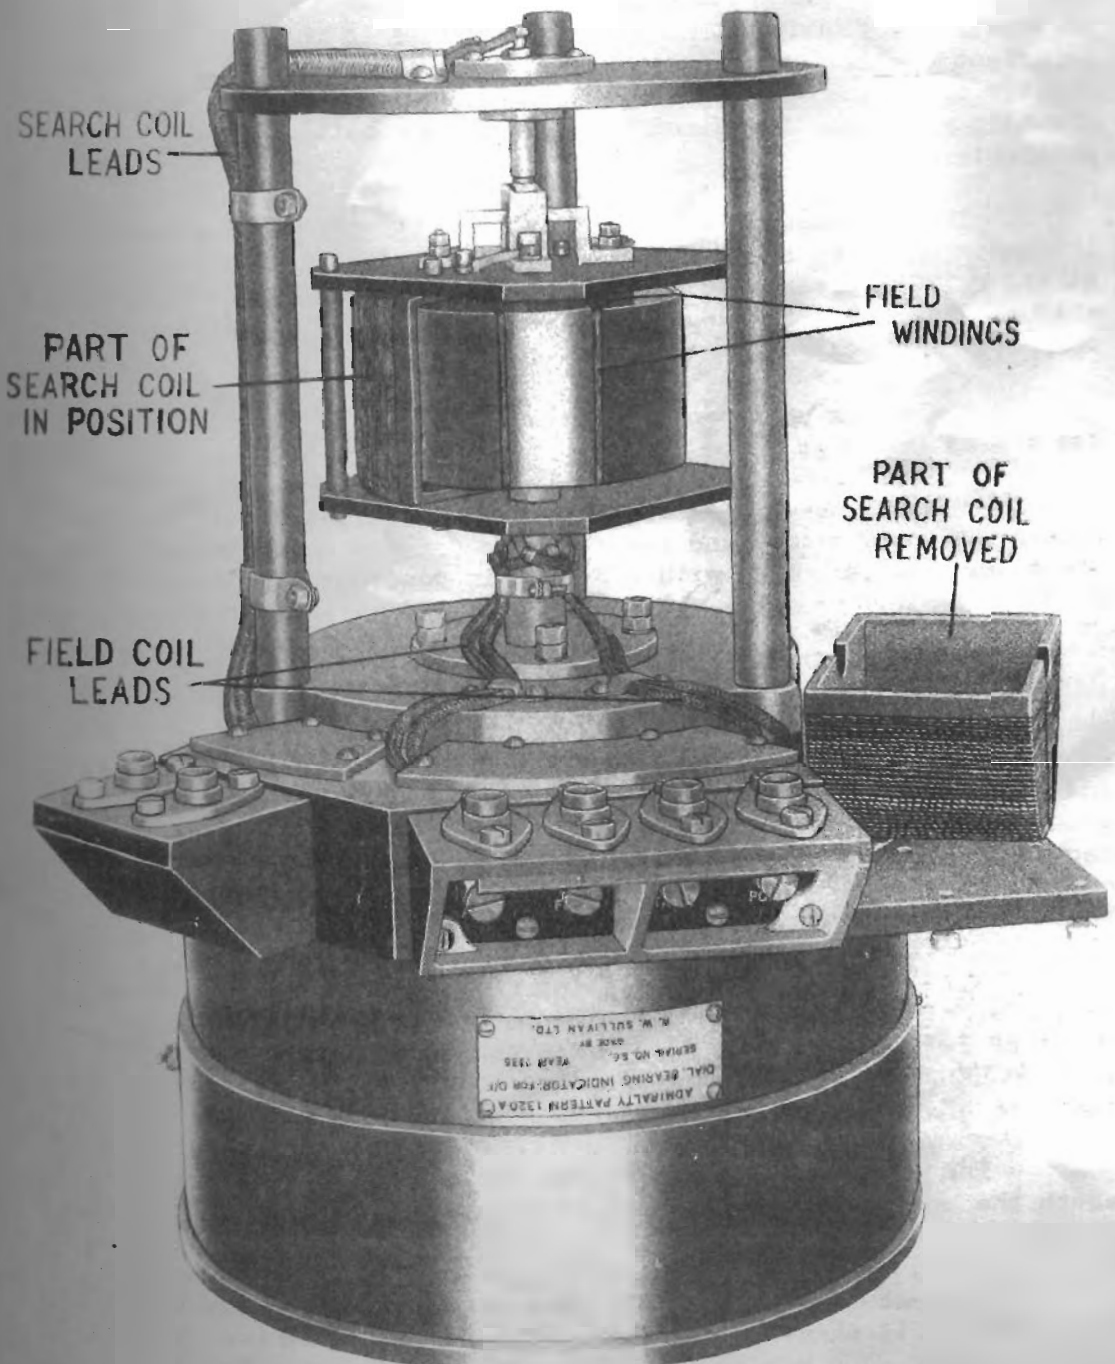

Fig. 9.
3. RADIO-GONIOMETER S27. (FIG. 9). Owing to the smallness of the aerial system it has been found necessary to obtain the maximum sensitivity in all parts of the receiving apparatus and for this reason goniometer S27 has been designed with a very high coefficient of coupling between the field windings and the search coil. The coupling has been increased above that which is obtainable in ordinary goniometers by winding the coils round a centre core of specially prepared iron.
The search coil is made in two parts, one of which has been removed to show the field coils in the photograph, Fig. 9.